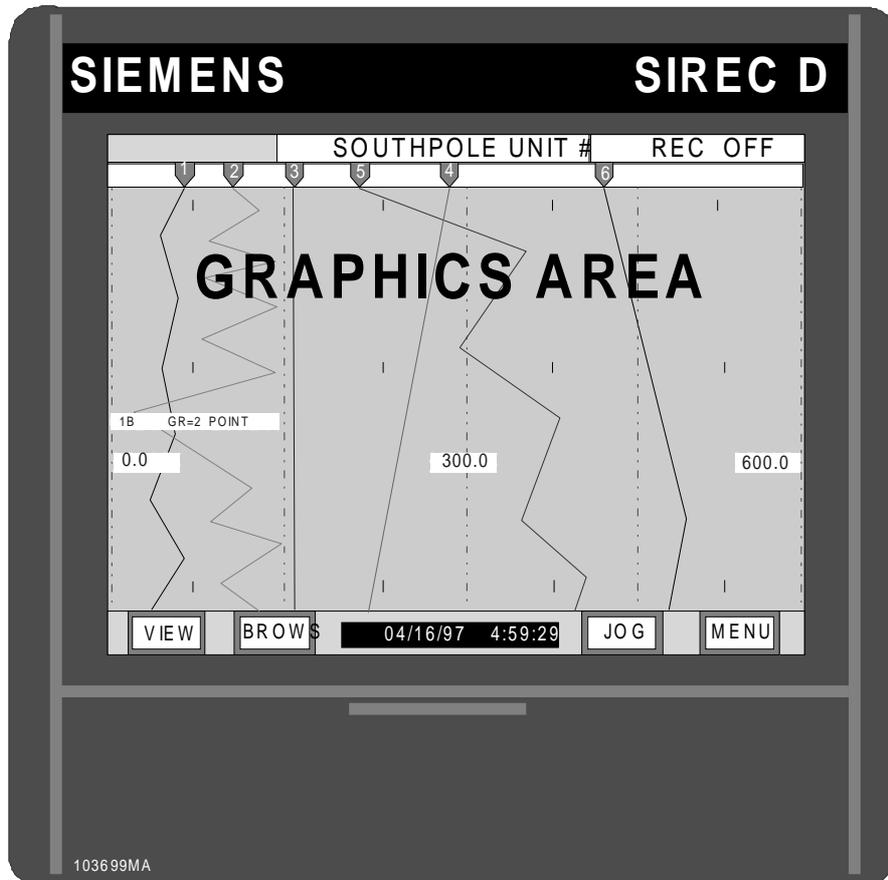

Figure 1-1 SIREC D Display Recorder Front View
1.1.1 Purpose. This manual is a user reference guide for the SIREC D Display Recorder (Figure 1-1). The manual provides detailed instructions for installation, operation, programming, communications interface, calibration, and maintenance and troubleshooting of the instrument. Engineering drawings, both parts lists and schematics, are provided in the last Chapter of this Manual to aid in Troubleshooting if problems should arise.